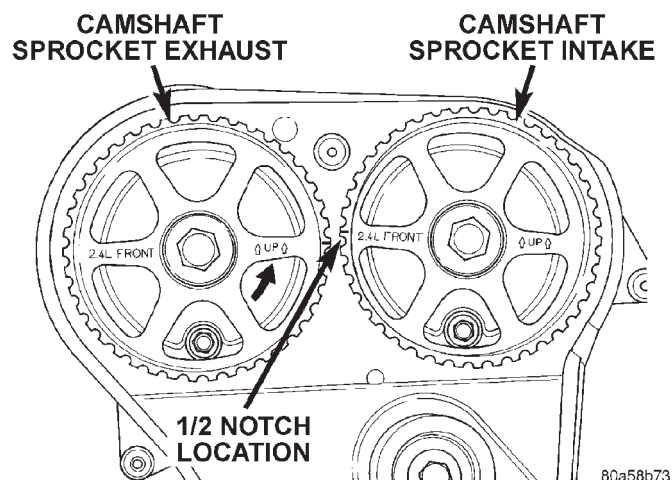

Fig. 57 Camshaft Sprocket Alignment
(1) Set crankshaft sprocket to TDC by aligning the sprocket with the arrow on the oil pump housing.
(2) Set camshafts timing marks so that the exhaust camshaft sprocket is a 1/2 notch below the intake camshaft sprocket (Fig. 57).